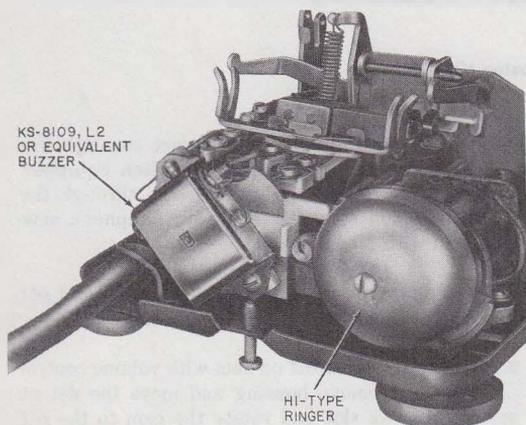

Fig. 8—Location of KS-8109 Buzzer
2.12 A KS-8109L2 or equivalent buzzer may be mounted to the bracket provided with a H1-type ringer of the set (Fig. 8).